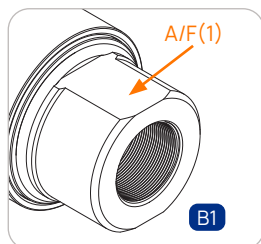

Figure 1
- ▶ When mounting media line, hold an open-ended spanner against the spanner flat A/F(1) (Figure 1).
- ▶ Screw the 'B1' media inlet pressure-tight to the port for the media line (Figure 1).